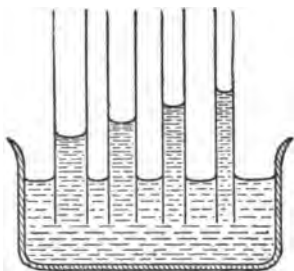

FIG. 15.—Capillary attraction in tubes.
24. Capillarity.—A striking action of the surface film of a liquid is seen in the rise of liquids in tubes of small bore when the liquid *wets* them. If the liquid *does not wet* the tube, as when mercury is placed in glass, the liquid is depressed. It is found in general that: *Liquids rise in capillary tubes when they wet them and are depressed in tubes which they do not wet; the smaller the tube the greater the change of level.* (See Fig. 15.) This action is explained as follows: The molecules of a liquid have an attraction for each other and also for the sides of a tube. The former is called “cohesion for itself,” the latter is